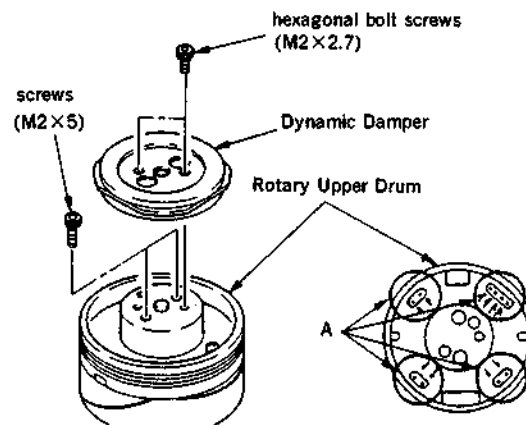
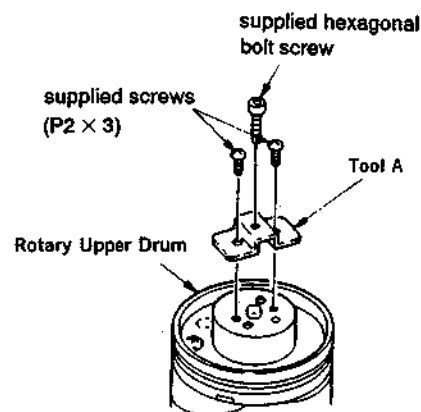

Fig. 1
Fig. 2
- (1) Open the MB-19P Board referring to Section 2-10.
- (2) Remove the Fly Wheel referring to Section 7-2-1.
- (3) Remove the two screws (M2 X 2.7) and remove the Dynamic Damper.
- (4) Unsolder the ten terminals at A positions. Check that the terminals which are projected out from the PC Board move freely with a pair of tweezers, etc. (fig. 1)
- (5) Remove the two screws (M2 X 5).
- (6) Install the tool A to the two screw holes of installing the Dynamic Damper with the two accessory supplied screws. Thread the accessory supplied hexagon screw into the center hole of the tool A, and remove the Rotary Upper Drum. (fig. 2)